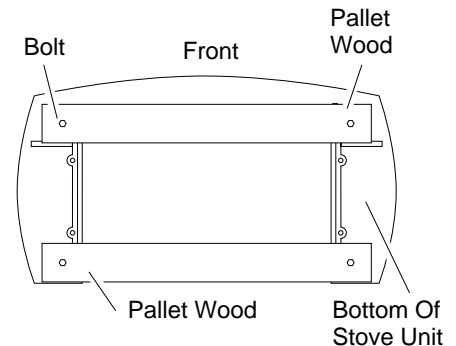

Figure 8 - Removing Pallet Wood From The Bottom of The Stove
7. Remove remaining pallet wood attached to bottom of stove body (see Figure 8). Use an adjustable wrench to remove bolts.